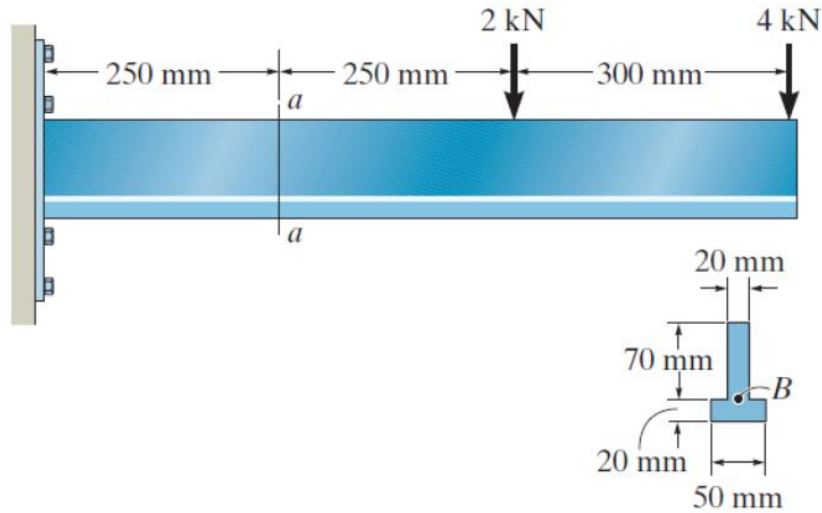

Figure Q4b
- b) Determine the maximum shear stress acting at section a-a of the cantilevered strut shown in Figure Q4b **10**